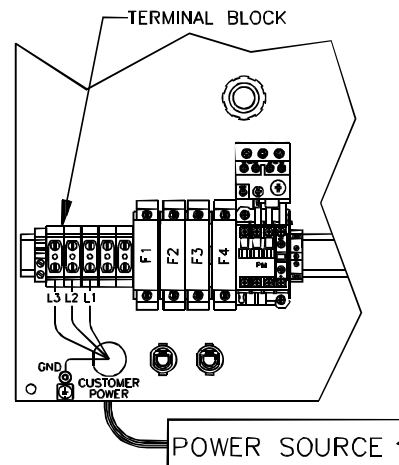

Figure 2-21. Power Panel
2. Remove the four screws that mount the cover to the machine and set the door aside. The terminal block is located at the lower, left-hand corner of the power panel. The ground screw is located beneath the terminal block as shown in Figure 2-21.
6. Fasten the ground lead to the ground terminal lug, labeled GND in Figure 2-21.
7. Fasten the three power leads to the three terminals **L1**, **L2**, and **L3** (Figure 2-21) on the main power terminal block.